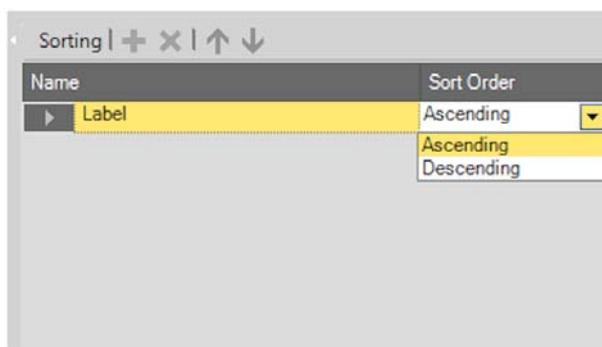

Figure 8-49. Options for sorting commands
2. On the **Sorting list toolbar**, click **Add**, see Figure 8-49.